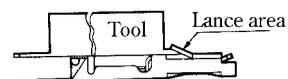

Figure 2
In order to re-insert the contact removed from the insulated case, raise the contact lance area using the tool A, and re-insert the contact, as shown in Figure 2.
- (1) As shown in Figure 1, peel the applicable cable (AWG#20 to #26) jacket, and connect it using crimping jig HIF3-TA2022HC, HIF3-TA2226HC, or HIF3-TA2426HC. In this case, insert the cable so as to hit the contact cable stripper position as shown Figure 2.